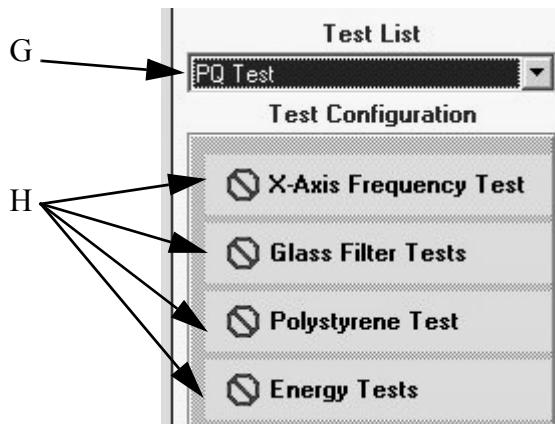

Figure 347: OVP Accessory Manager - Test configuration
- 17) Store the settings by clicking on the *Save Params* button (U).
- 18) To generate the settings for the OQ test protocol select *OQ Test* from the *Test List* drop-down list (G in figure 347). The *Test Configuration* field will now show all OQ tests. Proceed for the OQ test protocol and follow the steps as described for the PQ tests.